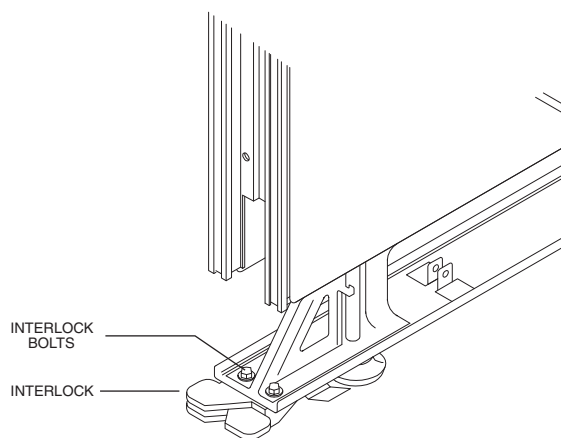

FIG. 1
2. Remove the panel interlock (take out interlock bolts) from the bottom of the panel which is to be butted against the wall (Figure 1). This requires the use of a $\frac{3}{8}$ " wrench.